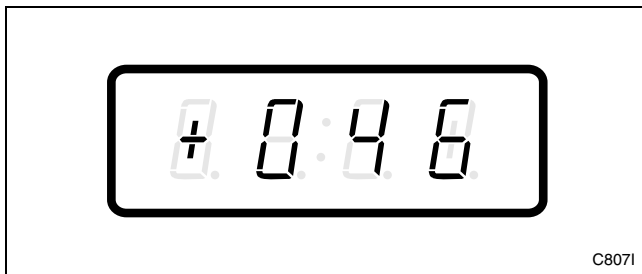

Figure 169
3. Press the DELICATES (+) or the COLD (-) keypad to scroll through the programmable options until “+046” appears in the VFD. Refer to *Figure 169*.